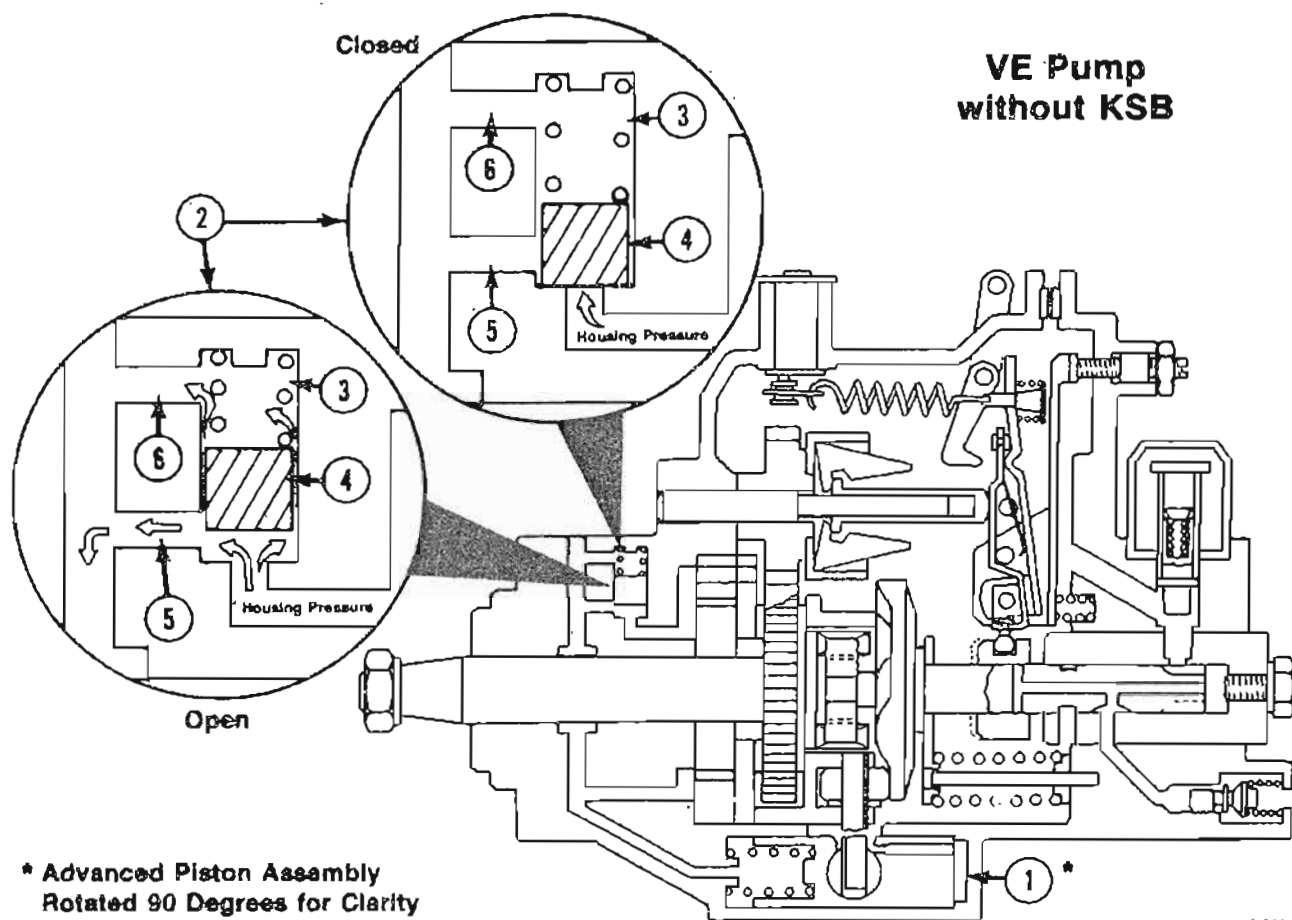

Figure 1, VE pump timing, regulated by opening and closing the pressure regulator valve
Pump housing pressure acts on an internal timing piston (1), Figure 1 to partially advance the injection timing at idle, and fully advance the timing when the engine RPM reaches approximately 60% of rated speed. As pump pressure increases, timing advances.
The KSB introduces a new fuel line (1), Figure 2, which routes fuel from the relief port (2) of the pressure regulator valve (3) to the plunger end (6), Figure 3, of the electrical solenoid, bypassing the normal return passage (6), Figure 1
With the key switch on, current flows from the key switch line to the 90°F normally closed intake manifold switch to the 12V electrical KSB solenoid (see Figure 2). When the engine starts the pressure regulating valve (3) attempts to regulate fuel pressure as before (without KSB) but the fuel from the relief port (2) now meets a 'dead end' at the plunger of the KSB solenoid (6), Figure 4. With the key switch on, the plunger moves outward and closes off the flow of the fuel (8), Figure 4. This action hydraulically locks (closes) the pressure regulator slider valve (4), Figure 1